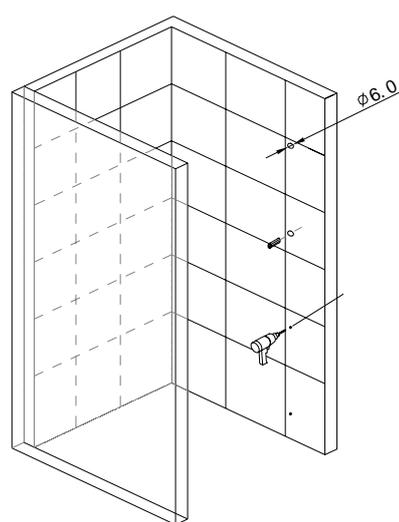
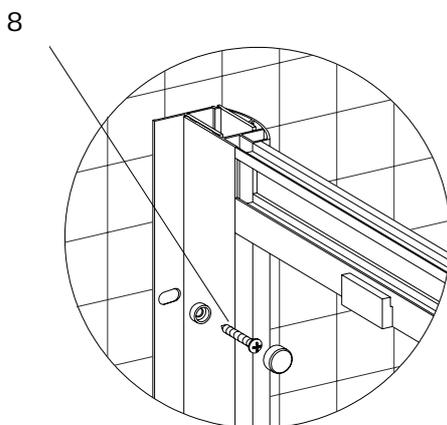

Figure 4
Figure 5
4. Drill the holes (Ø 6 mm) according to the marks and insert the wall plugs (10) into the holes as shown in figure 4. Use the rubber washers (9) and the ST4x30 screws (8) to fix the wall profiles (6) to the wall. Press the screw caps (7) over the screws as shown in figure 5.